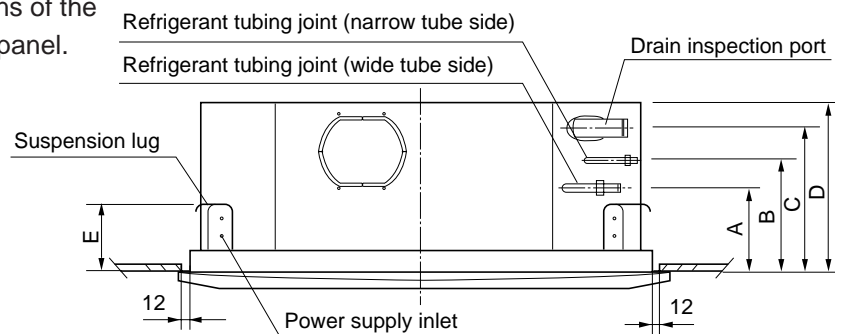

Fig. 3-35
- (3) Determine the pitch of the suspension bolts using the provided full-scale installation diagram. The diagram and table (Fig. 3-35 and Table 3-3) show the relationship between the positions of the suspension fitting, the unit, and the panel.